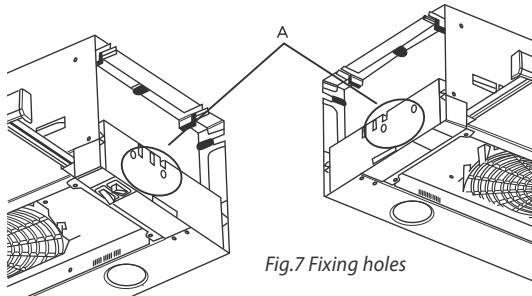
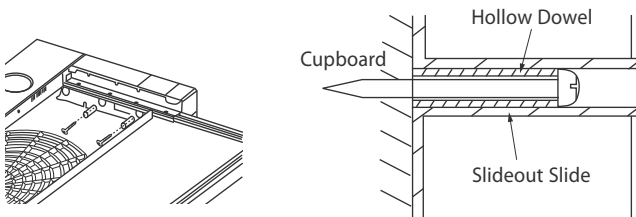

Fig.7 Fixing holes
Fig.8 Side mounting
- 1 Slide out the drawer and remove filter. You will see two mounting holes ▶ running through the moulded sides (see Fig.7).
- 2 ~~Remove the thin plastic skin (A) from each side fixing hole. An 8 mm diameter drill bit is recommended.~~
- 3 Position slideout (ensuring unit is level) and fix in place using screws and hollow dowels through each side fixing hole (see Fig.8). (Check screw length with thickness of cabinet panels).